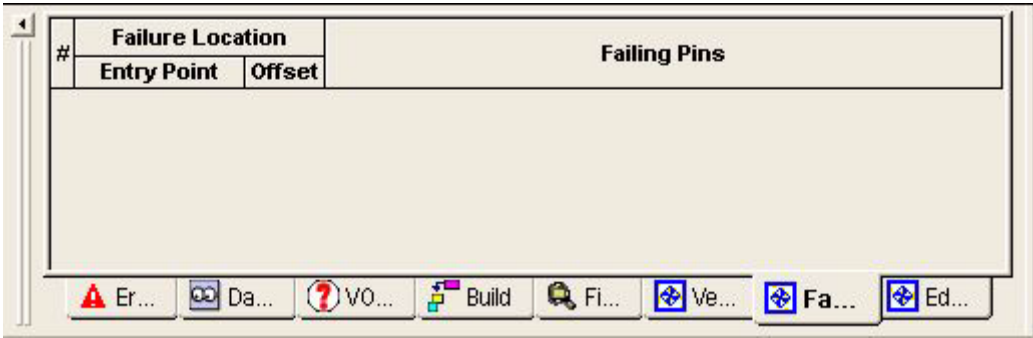

Figure 5-64. Output Pane Failures Tab
- 9 Viewing the Failures tab  in the Output Pane, the failure is gone (Figure 5-64).